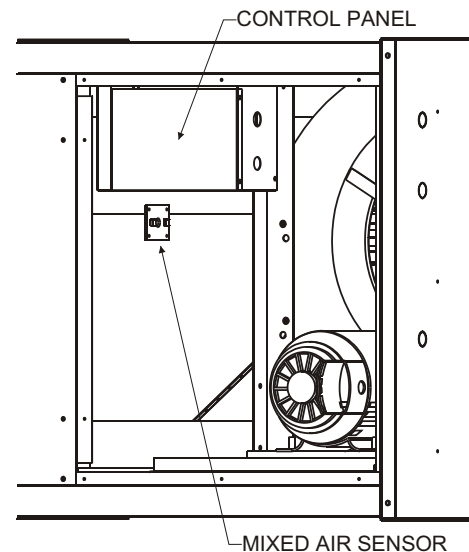

Figure 3 - Mixed Air Sensor Location
- 6 Cut and discard wire tie securing control wiring bundle inside the economizer. Remove the two red wires from the C-7150 Mixed Air Sensor and mount the sensor to the divider plate located left of the blower motor assembly as shown in **Figure 3** using two screws provided.